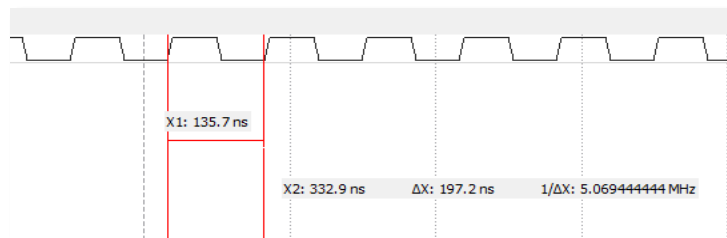

Figure 6. Zooming hot tracks in WaveForms
- Use the track to record the propagation delays as shown in Figure 6